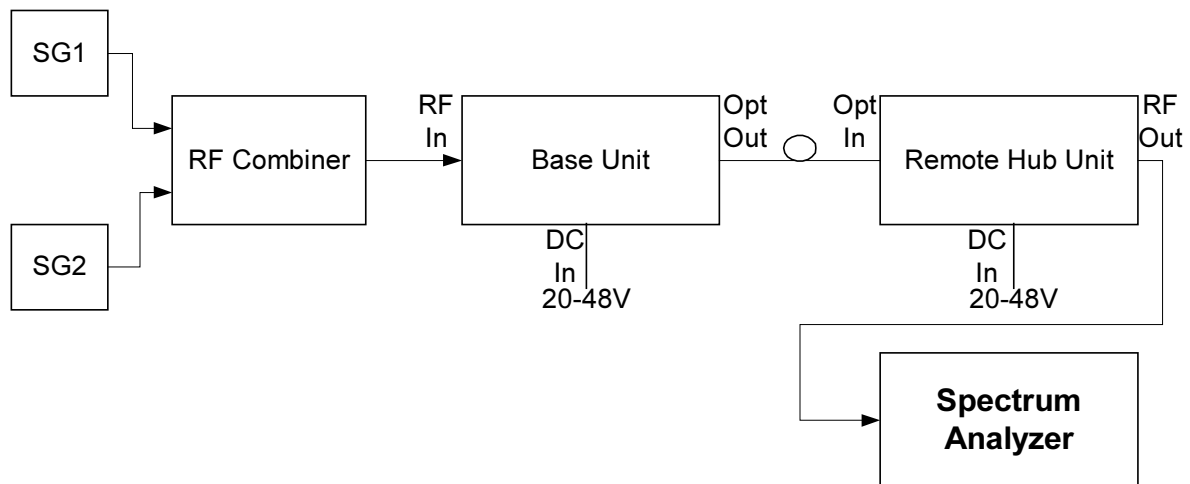

Figure 14 – Spectrum Analyzer Setup Test
3. Connect the 2-tone signal to the input of the base (see Figure 14).